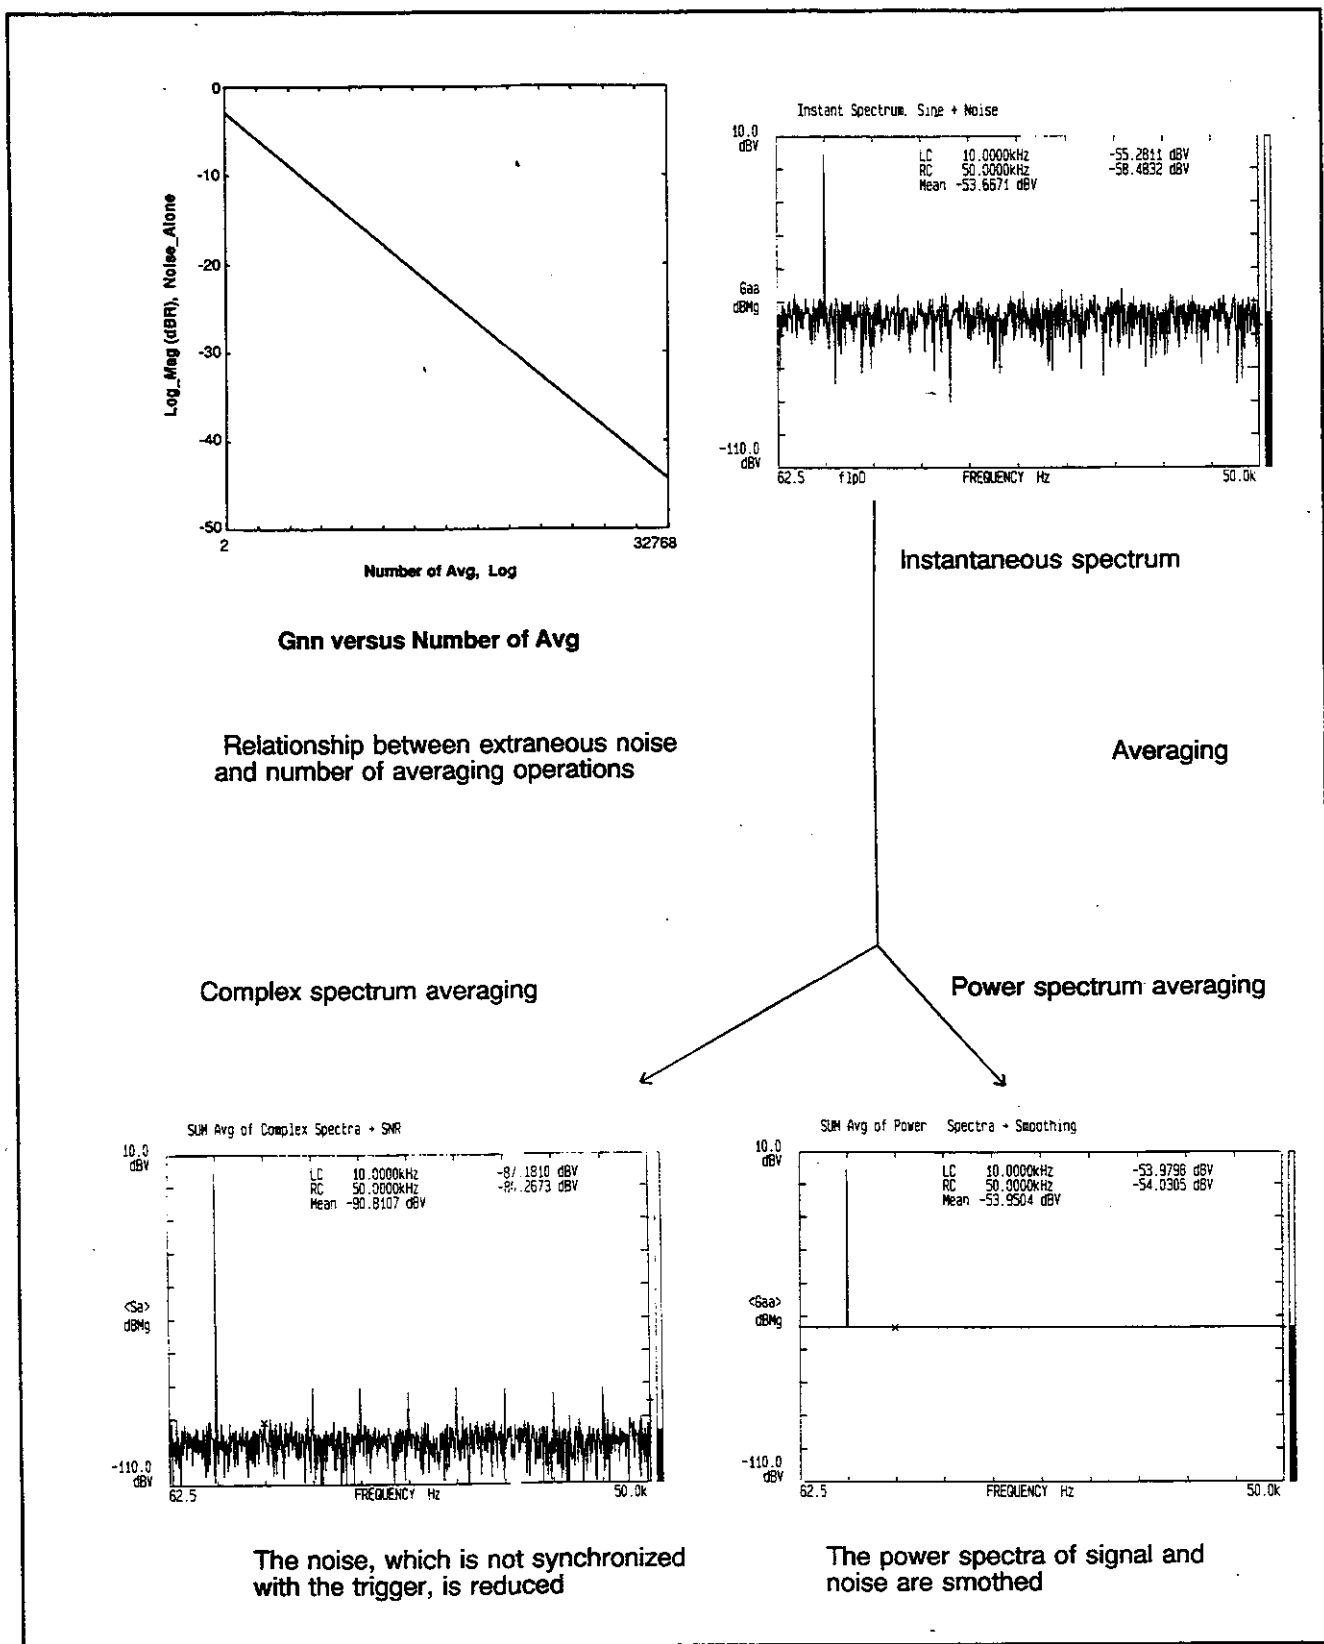

Figure 2-4 Effect of Power Spectrum and Complex Spectrum Averaging
2. Depending on the type of the averaged spectrum data, different applications are possible: (See Figure 2-4.)